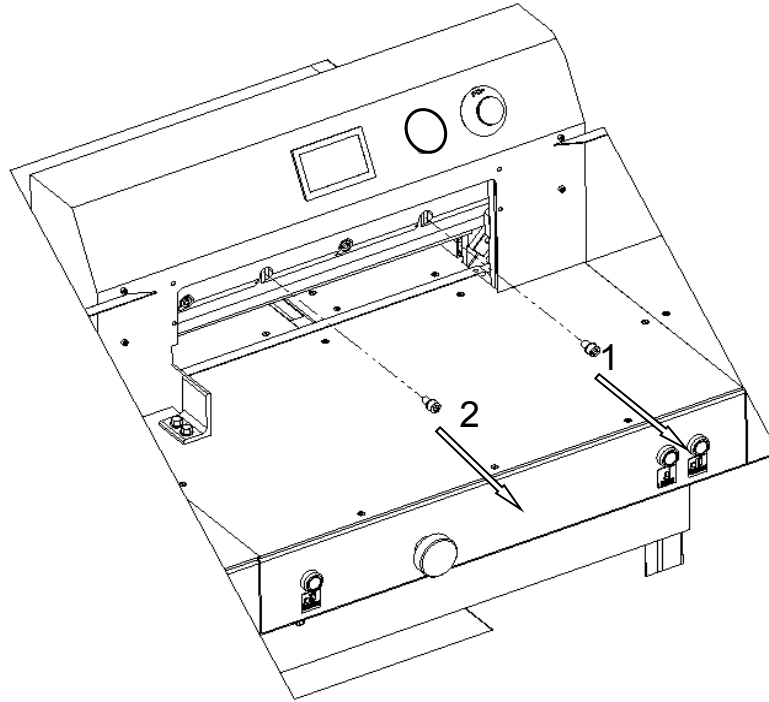
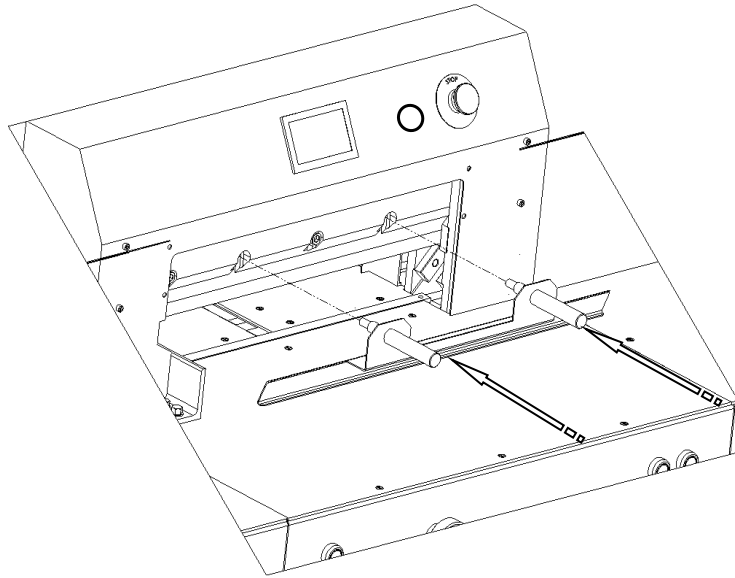

Figure 23.
Figure 24.
8.1.1.9 Unscrew and remove the fastening screws 1 and 2 (Fig. 23).
8.1.1.10 In the place of removed screws 1 and 2 (fig.23), screw in the transport handle 1 (fig.24).